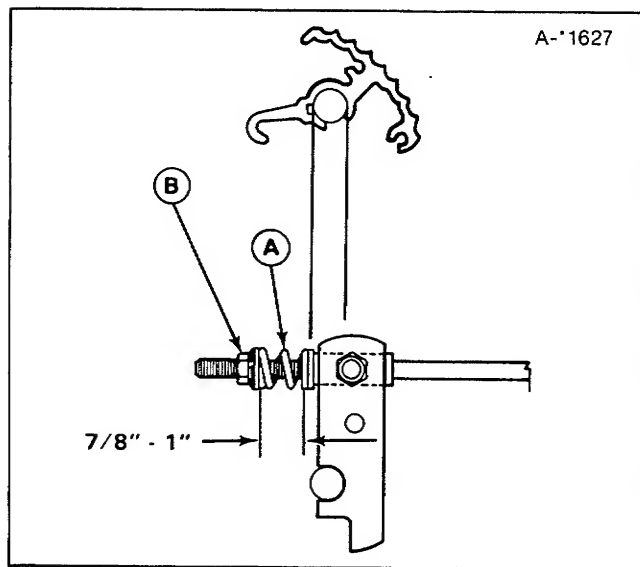

Figure 29. Clutch Adjustment
2. Inspect the clutch rod spring (A, figure 29). Correct length should be between 7/8 and 1 inch.
3. If adjustment is needed, turn adjusting nut (B) to compress spring to the proper dimension.